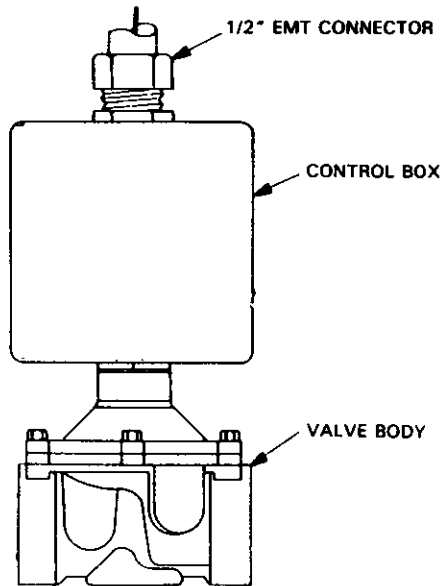

Figure 1-10. Gas Valve, Mechanical Shutoff
1. Mechanical Gas Shutoff Valve (Series GVS0) — Each system which is installed to protect a gas fueled cooking appliance must include a Listed gas valve to stop gas flow in the event of a system actuation. The gas valve is operated from the actuator. Gas valves are available in $\frac{3}{4}$, 1, 1 $\frac{1}{4}$, 2, 2 $\frac{1}{2}$ and 3 inch pipe diameters (See Figure 1-10).